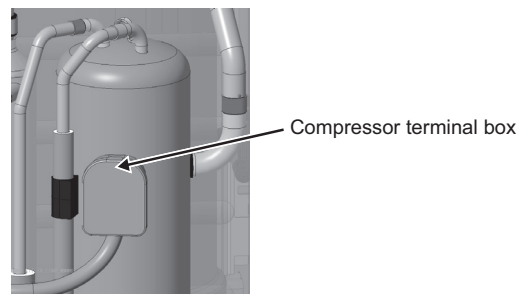

Fig. 7
*The recommended torque for the screws on the power terminal block in the compressor terminal box is 2.2 to 2.6 N·m. (Fig. 7)